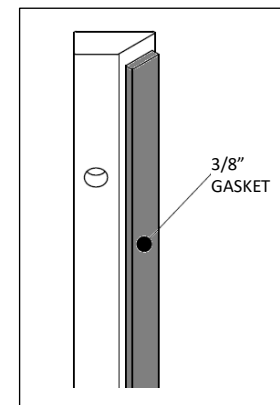

Fig. F7 – Gasket install on glass retainer
5. Attach gasket to glass retainer bar as shown in Fig. F7.